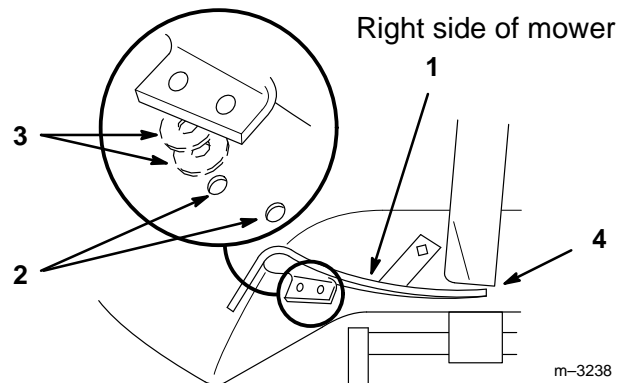

Figure 2
3. Locate rear right baffle tab over two holes and align with rear of mower (Fig. 2).
4. Rotate blade past baffle and check for blade clearance (Fig. 2).
5. Place (2) 5/16" washers, as required, between baffle and holes in mower to achieve blade clearance (Fig. 2).